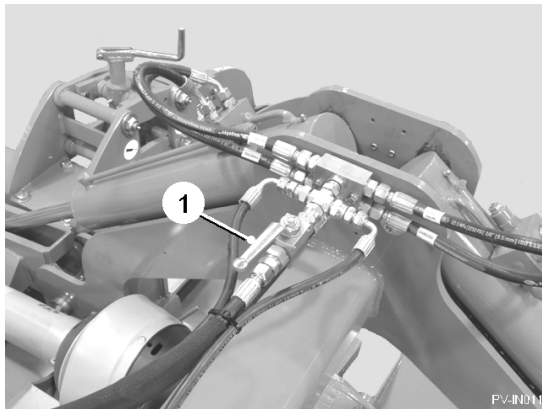

Fig. 3
2. Open the hydraulic shut-off valve (item 1, fig. 3) (handle in line with the pipes).
6. Close the hydraulic shut-off valve (item 1, fig. 3) (handle 90° to the pipes).
The Powavator 400 can be operated either with the wings locked rigid or with the wings allowed to float to follow the ground surface. When working to produce ridges, the wings should be locked horizontal by closing the ram shut-off valves (item 1, fig. 3). For general rotavation and incorporation, the wings should be allowed to float. This is achieved by leaving the ram shut off valve (item 1, fig. 3) in the open position and the tractor service in float. The wings are then able to move upwards if too much pressure is placed on the powavator.